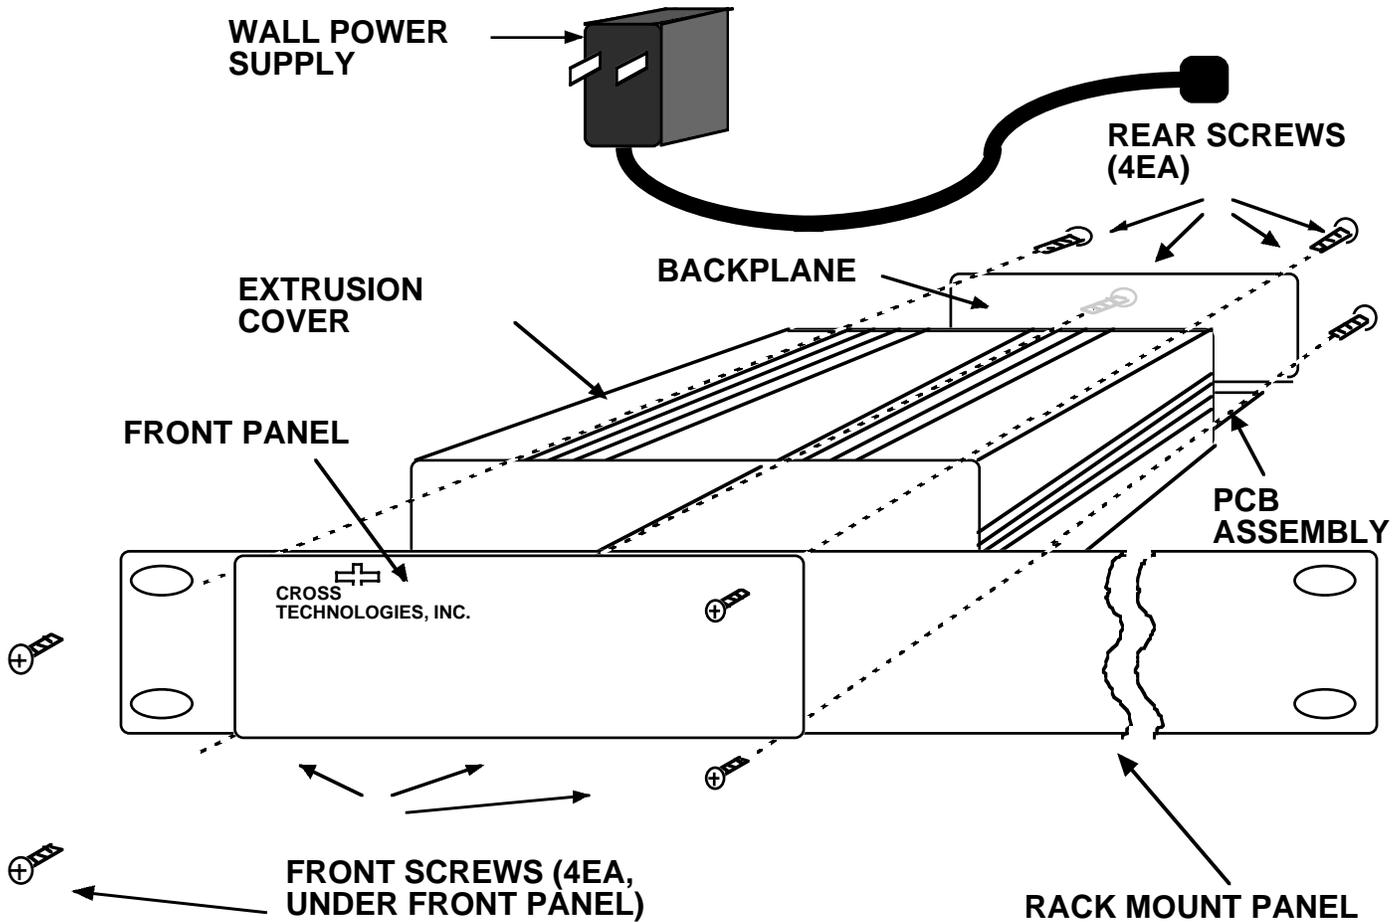
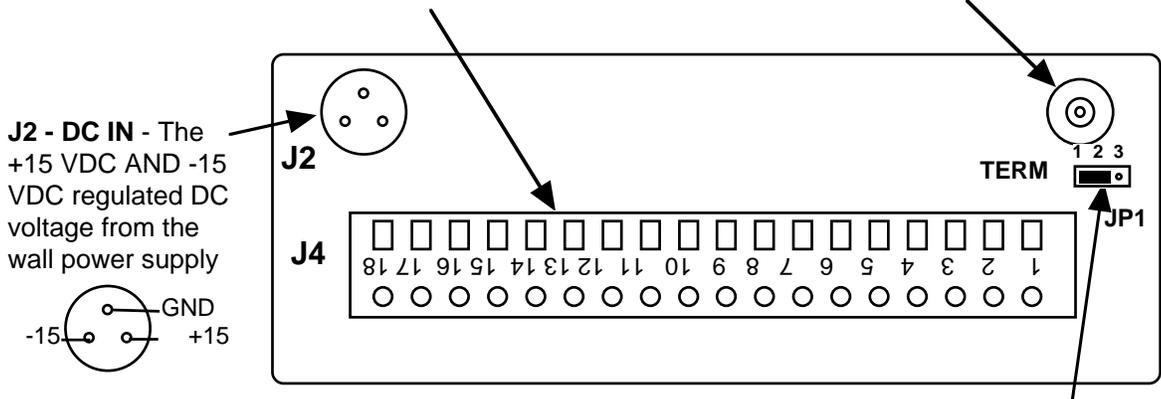

FIGURE 2.1 SERIES 2099 ASSEMBLY DRAWING (-R OPTION SHOWN)
FIGURE 2.3 2099 Inputs and Outputs
2.1 Mechanical - The 2099 PCB is packaged in an aluminum extrusion. The 2099 can be mounted on a 1 3/4" X 19" panel (option -R) that can be mounted to a rack using the 4 holes at the ends. The unit derives ± 15V from the wall power supply. Option -C is the unit without power supply for use with external switching power supply, Model 2000-01. See Figure 2.1
2.3 Input / Output Signals - Figure 2.3 shows the input and output signals to the 2099-42. Table 2.1 is a description of the connectors and J4 pin functions.
- 2.) **PCB REMOVAL** - Remove four (4) **rear panel screws** (see Figure 2.1).
- 6.) Install four (4) **rear panel screws**.
- 2.) Connect the wall power supply to the 2099 and the wall power supply to 115 VAC, 60 Hz (Fig. 2.1)
- 3.) Connect a 1 V P-P 10 MHz signal to J1, 10 MHz SIGNAL IN (Figure 2.1, Figure 2.3)